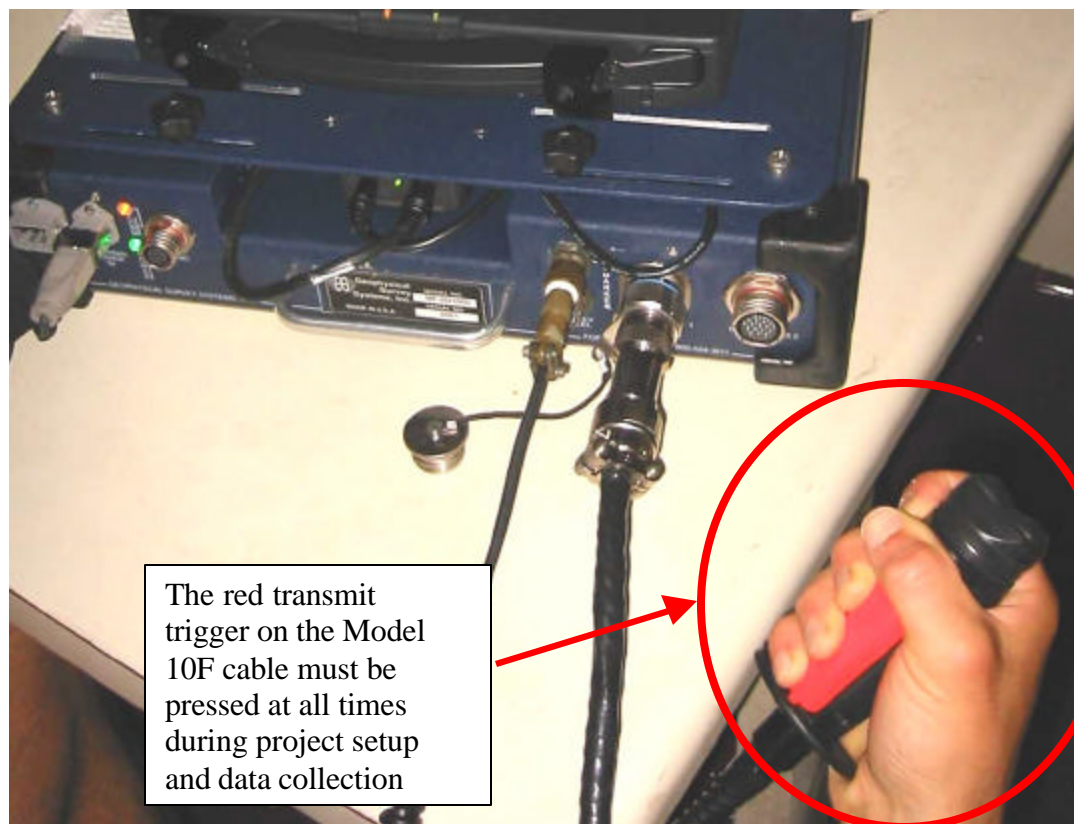

Figure 4. The red trigger on the Model 10F handle must be pressed at all times during project setup and data collection using a horn antenna.
3. Connect the Model 10F marker cable to the marker connector on the SIR-20, shown in Figure 4. The SIR-20 will not operate with a horn antenna without this cable attached.
7. Press  to run the project. Be sure to keep the red “trigger” pressed on the handle of the model 10F marker/transmit switch cable as shown in Figure 4. If the red trigger is released at any time during data collection, data collection will be paused after 2 seconds and the data file will be closed after 10 seconds.